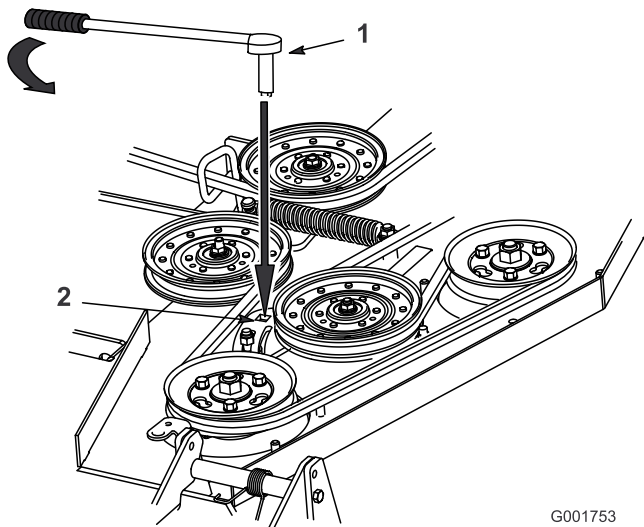

Figure 47
- If adjustment is required, loosen the idler plate to adjust it (Figure 47).
- Insert a ratchet or breaker bar into the square hole in the idler plate to adjust the tension (Figure 47).
- To increase belt tension, rotate the ratchet or breaker bar to move the fixed idler until you feel increased resistance and the spring-loaded idler pulley stops moving (Figure 47).
- While holding the belt tension, tighten the idler plate bolts that secure the idler plate (Figure 47).
- Adjust the belt tension and the idler plate, if necessary, and tighten all hardware securely (Figure 47).